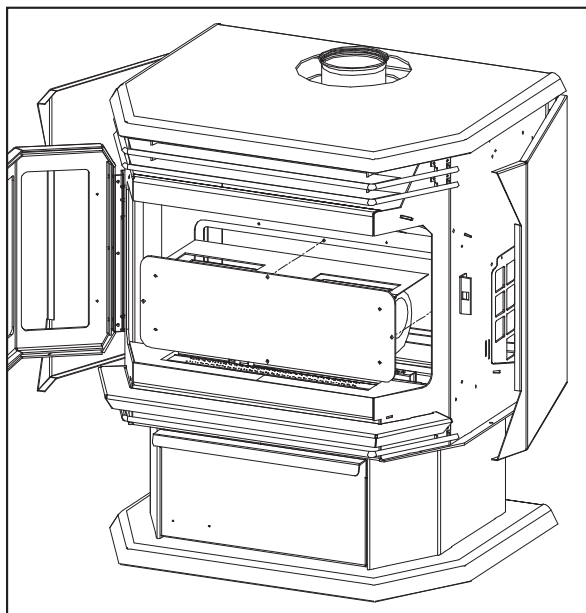

Figure 8: Blower (Fan) Removal.
4. Remove the four (4) $\frac{5}{16}$ " bolts that hold the blower mounting plate to the back firewall. Use a light lubricating oil on screws before removal.
5. Carefully pull the blower assembly into the firebox (see Figure 8) disconnect the blower leads from the harness and remove blower.